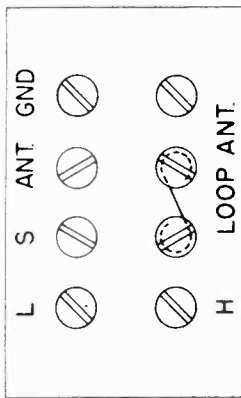

FIGURE 2
5. If the loop antenna trimmer is out of adjustment it should be set after the radio chassis is in the cabinet. Set the link on the antenna terminal board to the LOOP position as shown in Figure 2. Adjust the signal generator to 1400 kilocycles and connect its output to a loop containing approximately five turns of wire eight inches in diameter placed eighteen inches from the receiver loop and in the same plane